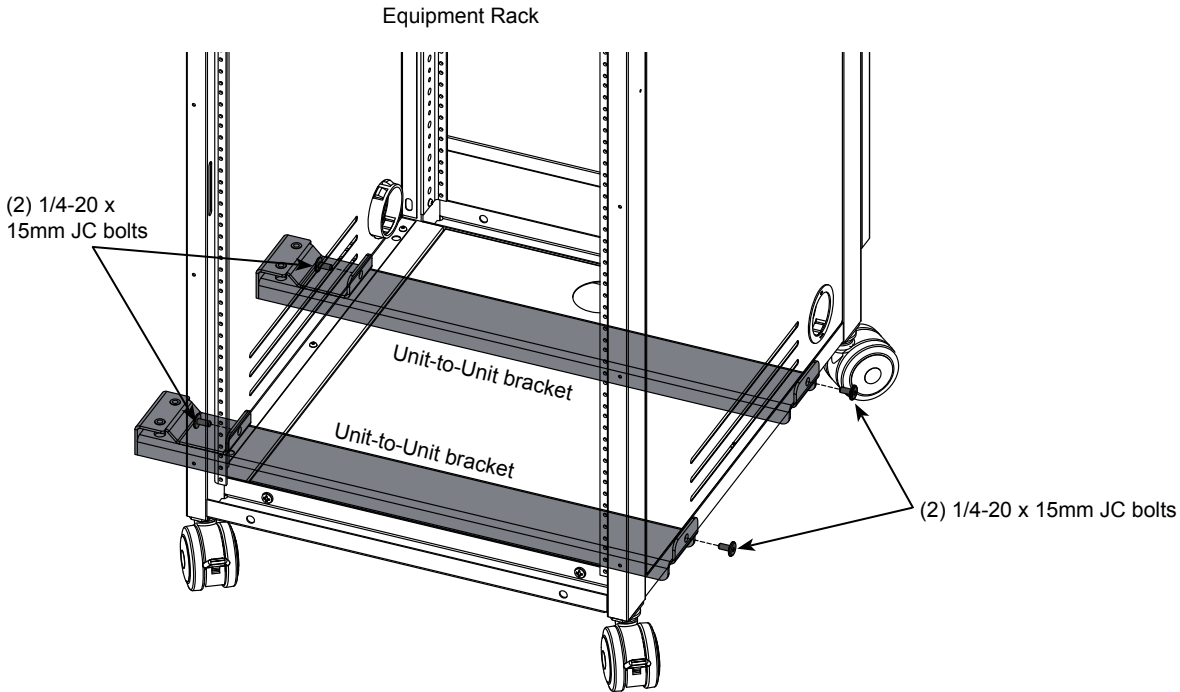

Figure 3A
2. Attach the unit-to-unit brackets to the equipment rack side panel mounting holes with (4) 1/4-20 x 15mm JC bolts. **Figure 3A.**